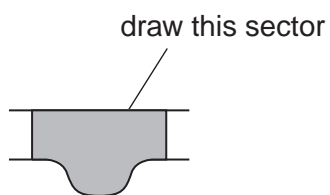

Fig. 2.1
- (a) (i) Draw a large plan diagram of the part of the leaf on **L1** indicated by the shaded sector in Fig. 2.1.